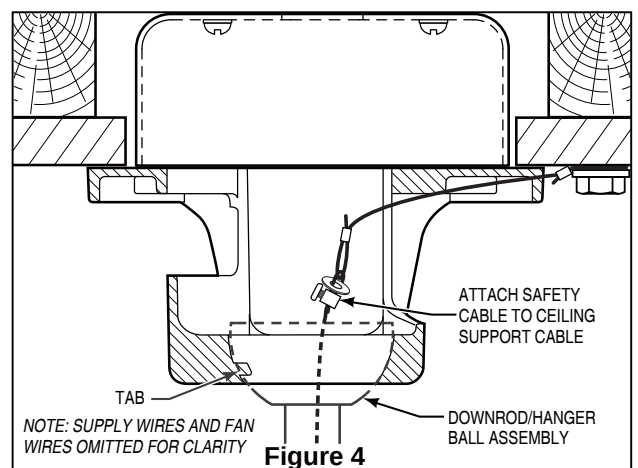

Figure 4
- ☐ 4. Slide downrod into the downrod support on top of the motor. Install the clevis pin by aligning the holes in the downrod support with holes in the downrod. Secure clevis pin with hairpin clip. Tighten the two set screws with nuts in the downrod support. (Figure 4)
- ☐ 4. Carefully lift the fan and seat the downrod/hanger ball assembly on the hanger bracket that was just attached to the outlet box. Be sure the groove in the ball is lined up with tab on the hanger bracket (Figure 4)
- ☐ 5. Attach the safety cable to ceiling support cable. Slide cable clamp and washer onto safety cable (from fan). Place the end of cable through the loop of ceiling support cable. Pull as much cable through loop as possible. Feed end of cable into clamp hole and firmly tighten screw (Figure 4).
- ☐ 4. Assemble the LED assembly to the light kit assembly use the removed screws in Step 3A. (Figure 4)
- ☐ **4. Remote Control Setting and Speed (RPM) Setting Process :** (Figure 4)